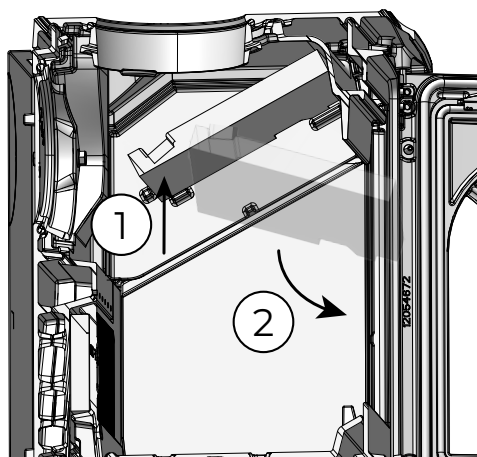

Fig. 7.5
3	Lift the lower baffle (B) from the rear to release it from its supports and tilt it at the front so that it can be removed (Fig. 7.5)